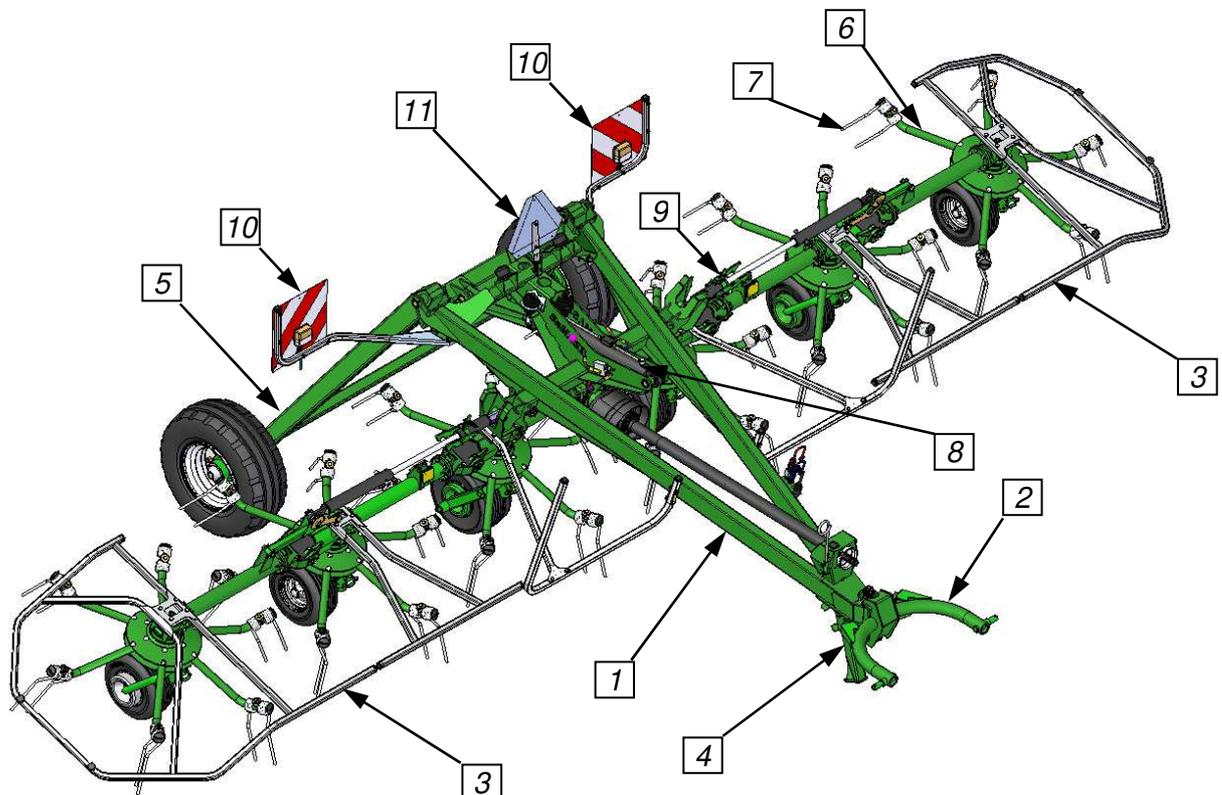

Fig. 4. Parts of trailed rotary tedder (for: P6 – 771 C)
Overview of trailed 6-rotary tedder is shown in **Fig. 4**. Carrying frame (1) with hitch (2) enables coupling of the tedder with tractor's lower links. Drive from tractor rpm is transmitted through rotary gear with shaft and intersecting axis gears onto rotors. The tedder includes three drive units: left, right and main drive unit with rotors comprising arms (6) and tines (7). Safety guards (3) are mounted on the frame and lateral drive units. For transport the outer units with rotors are folded by hydraulics to vertical position and locked with a locking pawl (9) and rear drive wheels (5) are lowered to transport position. At the same time, in order to avoid damaging tines (7) of middle rotors, rear drive wheels (5) are lowered causing the frame (1) to lift, which provides a sufficient distance of working units from the ground during transport. When driving on public roads the tedder should be equipped with a plate with luminous and reflecting elements (10) and a warning triangle for a slow-driving vehicle mounted on the holder (11).